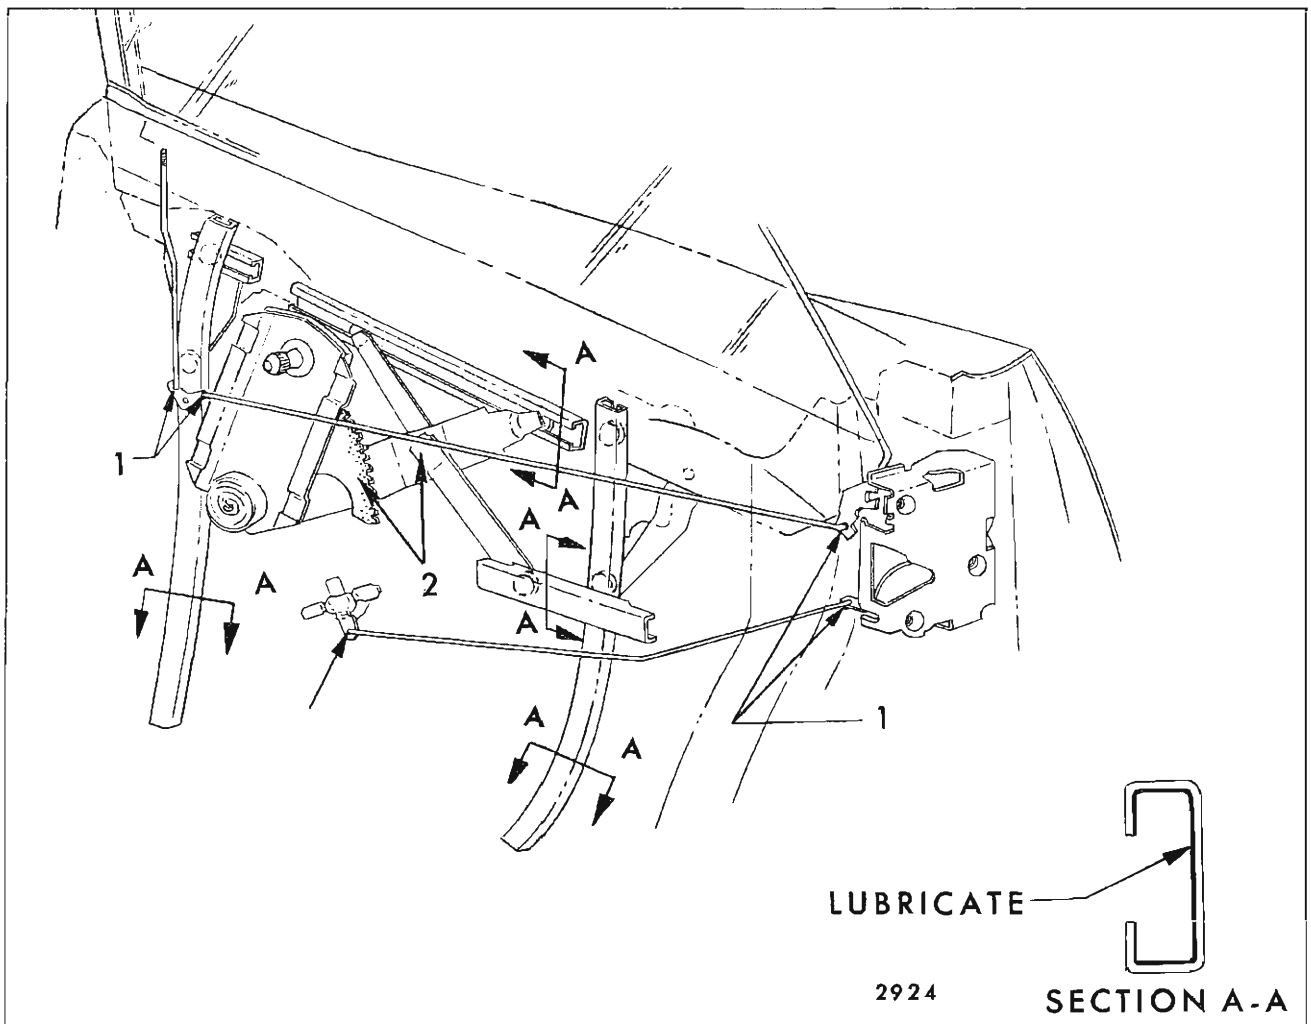

Fig. 2-8—Door Window Regulator and Cam Lubrication - Hardtop
grease (Fiske Bros. Lo-Temp. Lubriplate #777 or equivalent), cover the entire length of the front guide, rear guide, the lower sash channel cam, and the inner panel cam as shown in the cross section "A-A", Figure 2-8.
2. Lubricate all connecting rod pivot points with Auto-Lube "A", Part No. 1050110 or Spray-Lube "A", Part No. 1050520 or equivalent at the points indicated 1 in Figure 2-8.
3. Apply a thin coat of Auto-Lube "A", Part No. 1050110 or Spray-Lube "A", Part No. 1050520 or equivalent to the teeth of the sector gear and the pivot point of the balance arm and lift arm as indicated at points 2 in Figure 2-8.